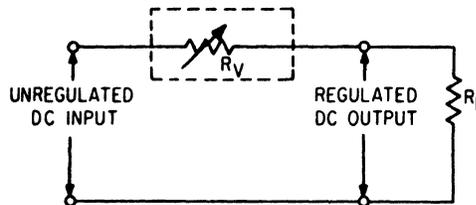
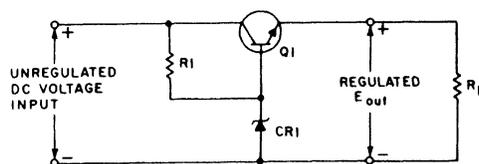

Fig 4-32. Series voltage regulator.
Fig 4-34. Series voltage regulator.
The schematic drawing in view (A) is that of a shunt-type regulator. It is called a shunt-type regulator because the regulating device is connected in parallel with the load resistance. The schematic drawing in view (B) is that of a series regulator. It is called a series regulator because the regulating device is connected in series with the load resistance. Figure 4-32 illustrates the principle of series voltage regulation. As you study the figure, notice that the regulator is in series with the load resistance ( $R_L$ ) and that the fixed resistor ( $R_S$ ) is in series with the load resistance.
The schematic for a typical series voltage regulator is shown in figure 4-34. Notice that this regulator has a transistor ( $Q1$ ) in the place of the variable resistor found in figure 4-32. Because the total load current passes through this transistor, it is sometimes called a "pass transistor." Other components which make up the circuit are the current limiting resistor ( $R1$ ) and the Zener diode ( $CR1$ ).